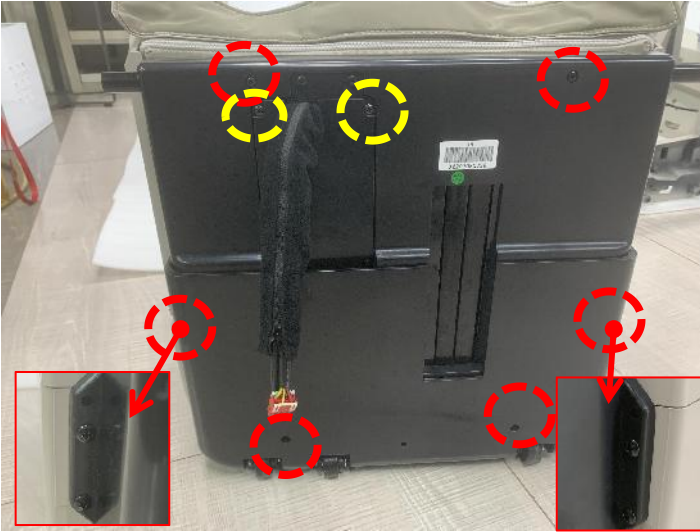

Figure 1
1. Remove 8 fixing screws (red rings) of the lower leg back cover and 2 fixing screws (yellow) of the lower leg drive box cover (Figure 1)